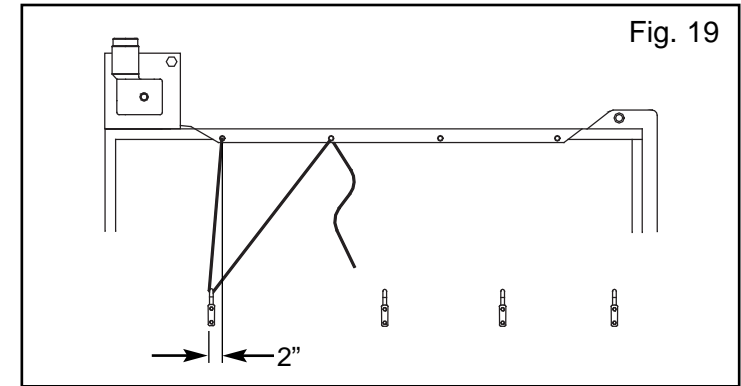

Fig. 19
- Position the first hook 2" (5.08cm) forward of first tie down (Fig.19).